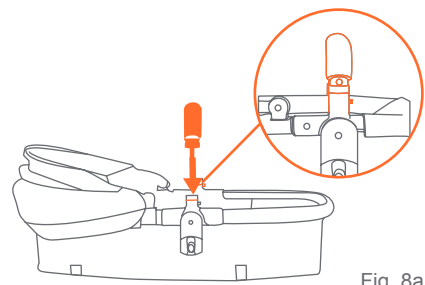

Fig. 8a
- 8) • Attach the bumper bar by lining up anchors with the slots on the seat. Push until it clicks into place (Fig. 8a).